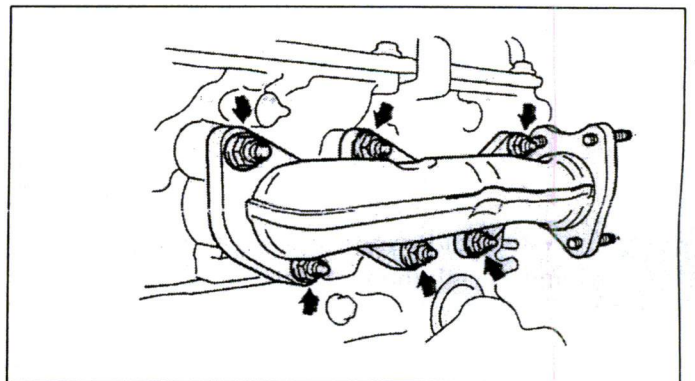

Figure 10
9. Remove a total of 12 nuts connecting both the LH and RH manifolds to the engine and remove each manifold with its gasket (Figure 10).